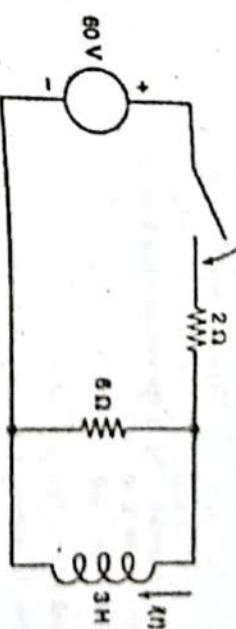

Fig. 5
Q.1. For the circuit shown in Fig. 5, find $i(t)$ after the switch is closed at $t = 0$.